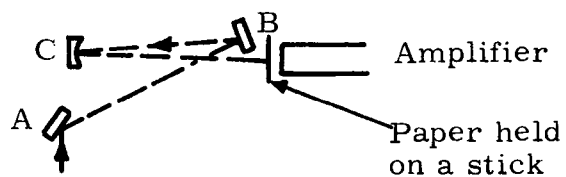

Figure 6. Centering the Amplifier
9. Adjust mirror C by removing the cover and putting a piece of paper on a yard stick and make sure the beam is approximately in the center of the amplifier tube (Figure 6).